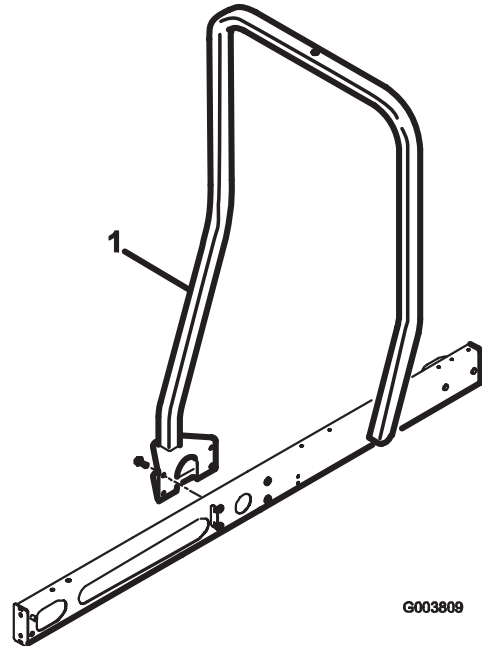

Figure 2
1. Lower the roll bar aligning it with the mounting holes in the frame as shown in figure 2.
2. Secure each side of the roll bar to the frame with (4) 1/2 x 1-1/4 inch flangehead bolts (Fig. 2).